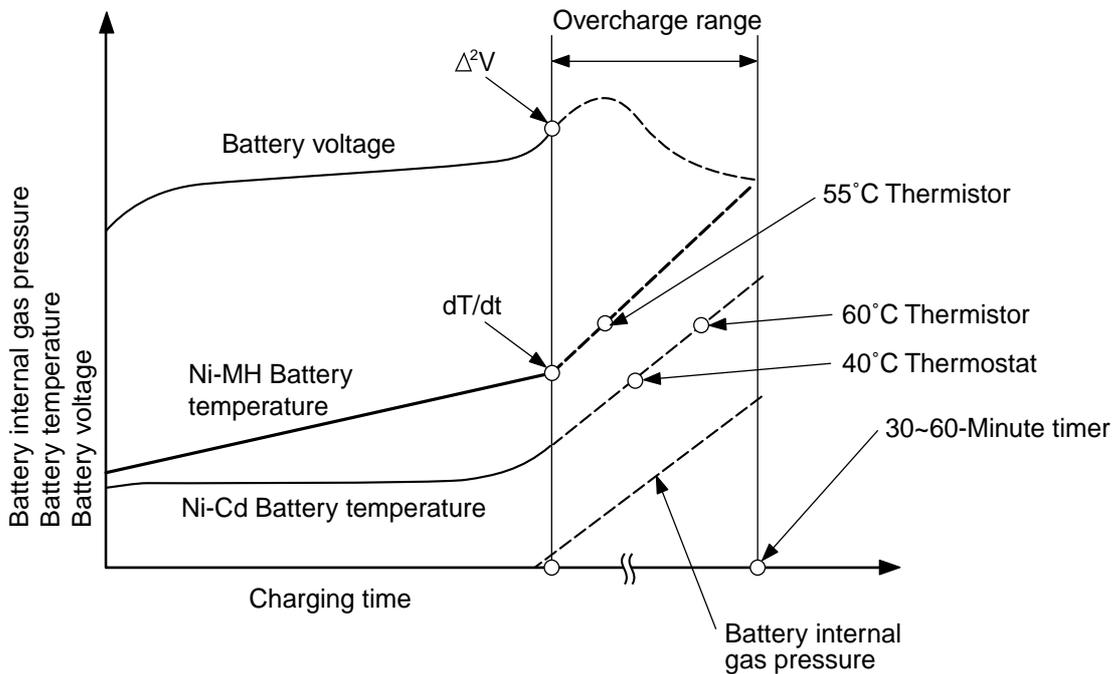

Fig. 7 Relationships of time, voltage, temperature and gas pressure while charging
- (A) • Δ^2V : This detects the increase in battery voltage at the end of charging using the value Δ^2V and suspends charging.
- (B) • Built-in battery temperature sensors : In the event the Δ^2V system fails to detect the voltage change, the 40 °C thermostat or the 60 °C thermistor stops charging when battery temperatures reach their respective values.
- (C) • Timer : Should both the Δ^2V system, dT/dt system and the temperature sensors fail, the timer automatically stops charging within 30 – 60 minutes from the beginning of charging.
- (Note 4) As shown in Fig. 7, the pressure of gas generated after a battery has become fully charged rises rapidly to cause high temperature and high gas pressure that degrade the effectiveness of the battery. If charging is allowed to continue, the pressure of the gas will activate the safety valve in the battery, and the electrolyte will begin leaking.